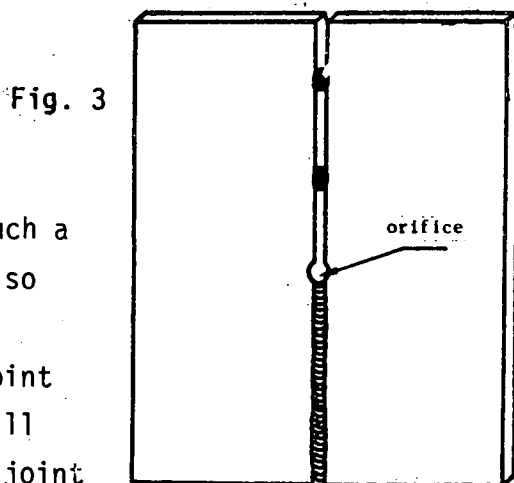

Fig. 3
- 2) In all the extent of the butt joint an orifice must be kept which will indicate the penetration in the joint (fig. 3).